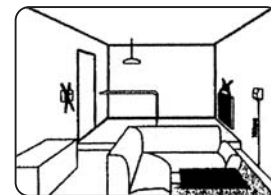

Fig. 1
- Look for a location which has a constant temperature in the house and it is not near the door entry or air conditioning outlet (see example on Figure 1).